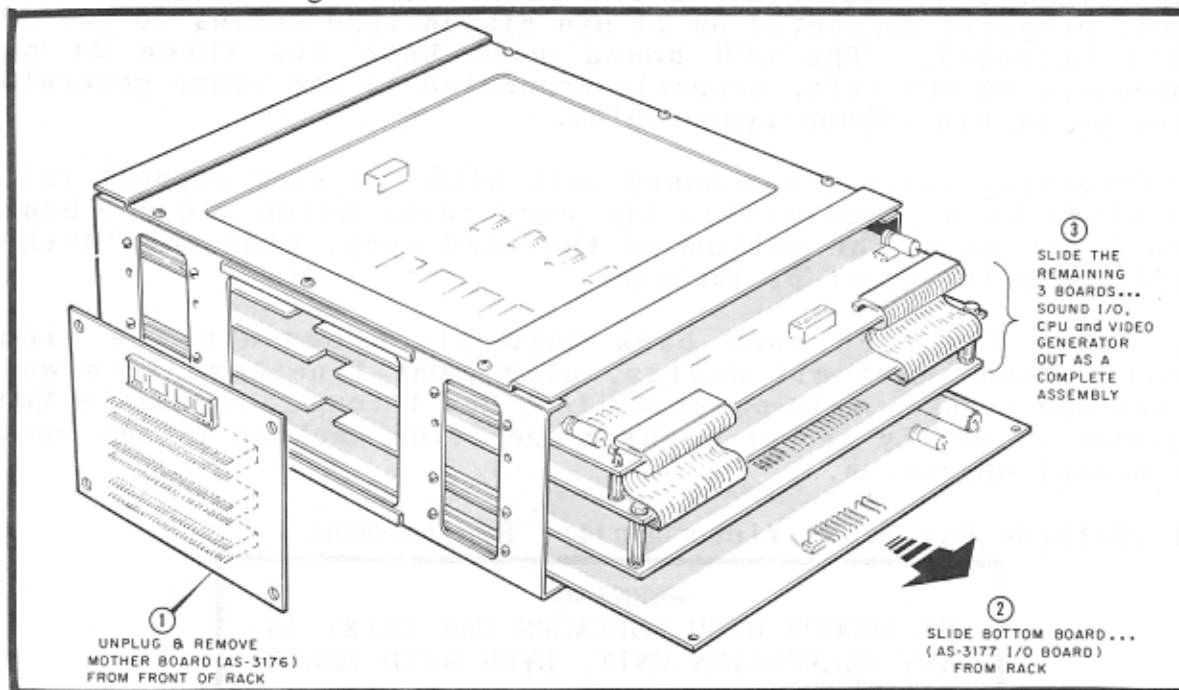

Fig. 48
7. Slide the I/O board out from the bottom of the card rack and set aside (see Fig. 48).